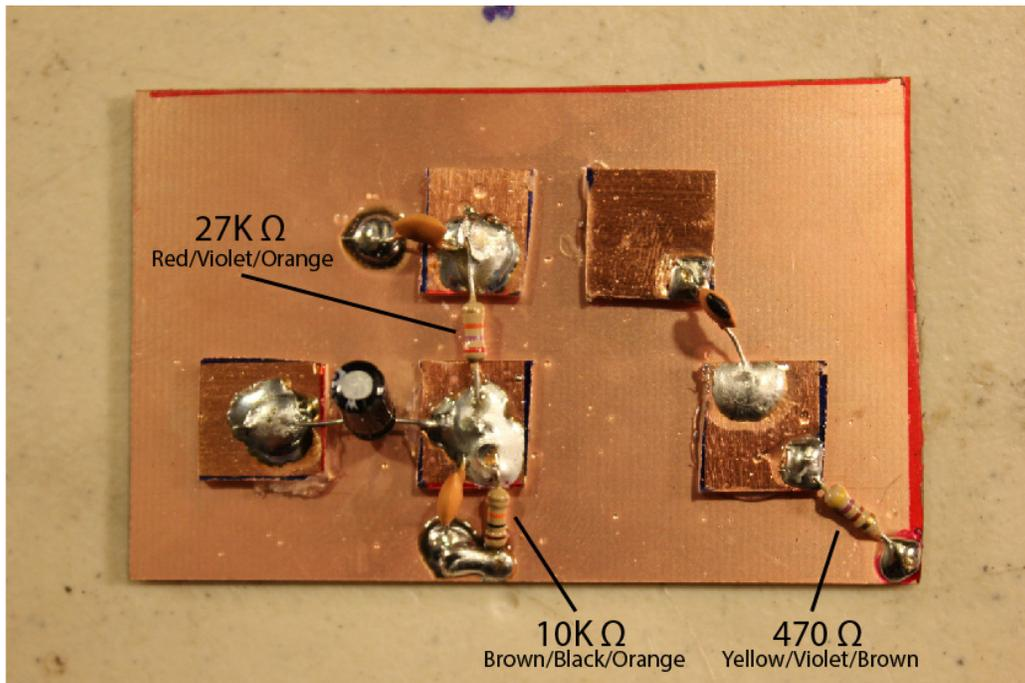

Figure 9
- See figure 9 for positioning